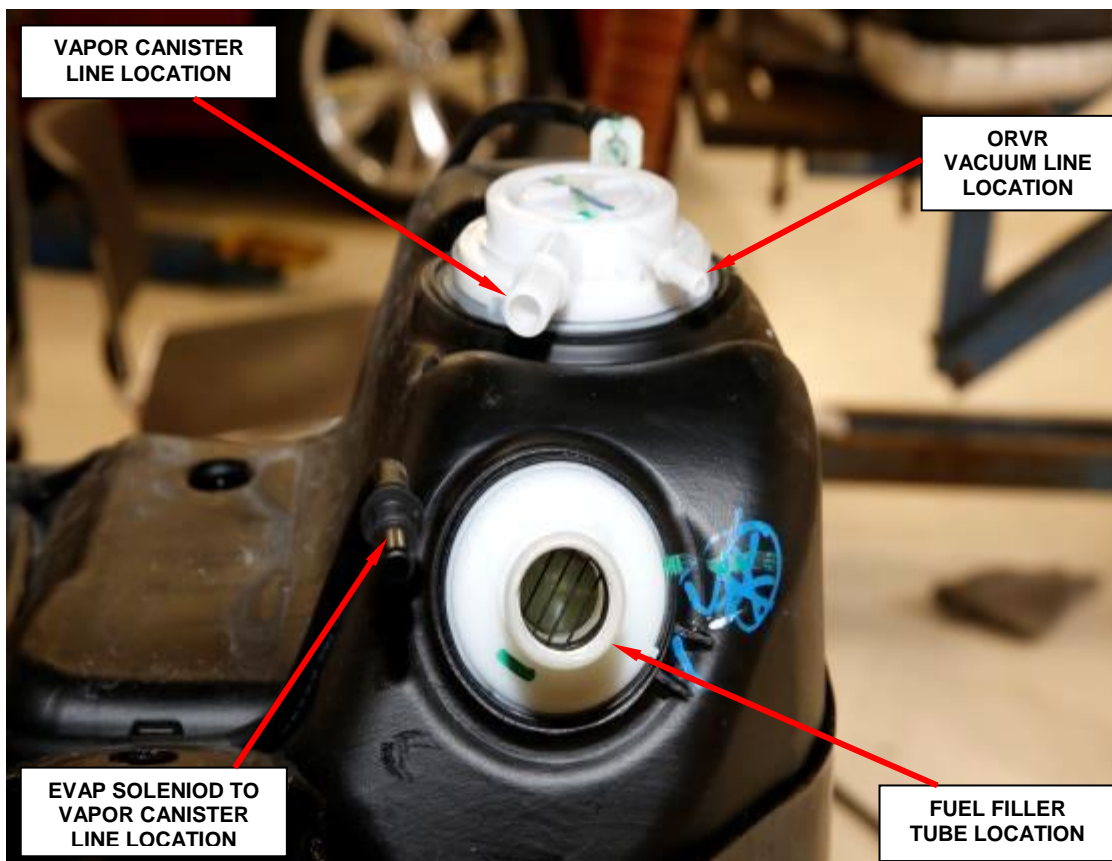

Figure 5 – Fuel Tank Connections
14. Loosen the fuel filler tube hose clamp and remove the fuel filler tube from the fuel tank (Figure 5).
15. Disconnect the EVAP solenoid to vapor canister line quick-connect fitting (Figure 5).
16. Disconnect the On-Board Refueling Vapor Recovery (ORVR) vacuum line quick-connect fitting from the ORVR control valve (Figure 5).
17. Disconnect the vapor canister line quick-connect fitting from the ORVR control valve (Figure 5).